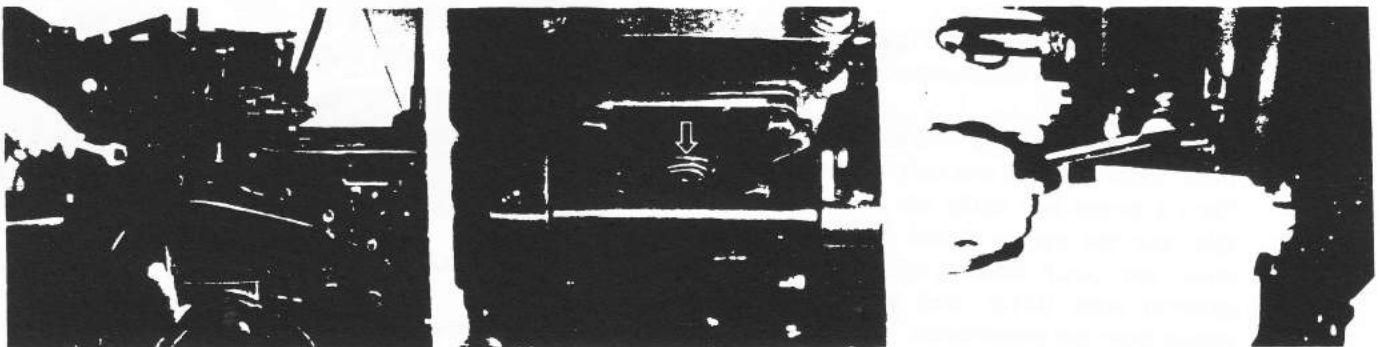

Fig. 4
1. Remove the drain plugs under the hydraulic case, the transmission case, and the axle gear case, and drain out the oil in each component (Fig. 4).